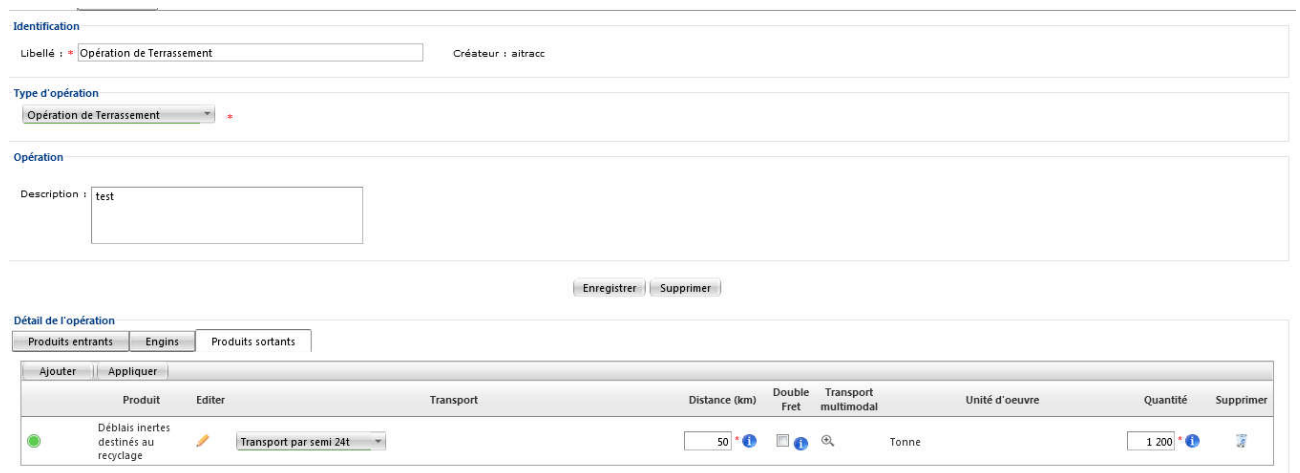

Figure 55 – Information on each of the outgoing products
- 29- After selecting the different products, "Click" on "Add" (Figure 55)